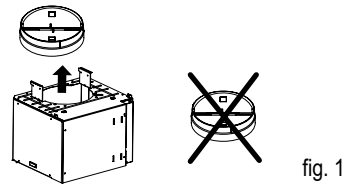

fig. 1
- Remove the retention valve (fig. 1).